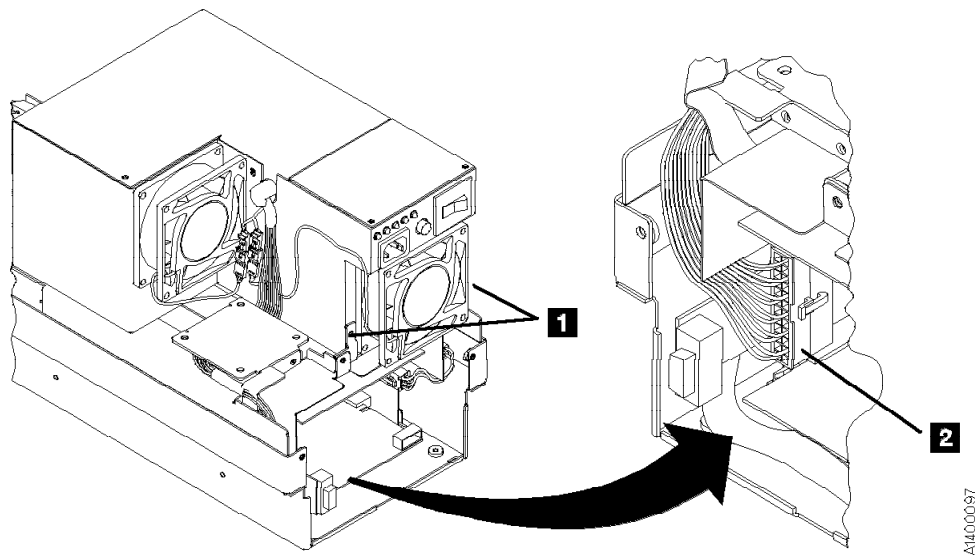

Figure 318. Power Supply (Model B11/B1A only)
5. See Figure 318. Disconnect the power supply connector **2**.